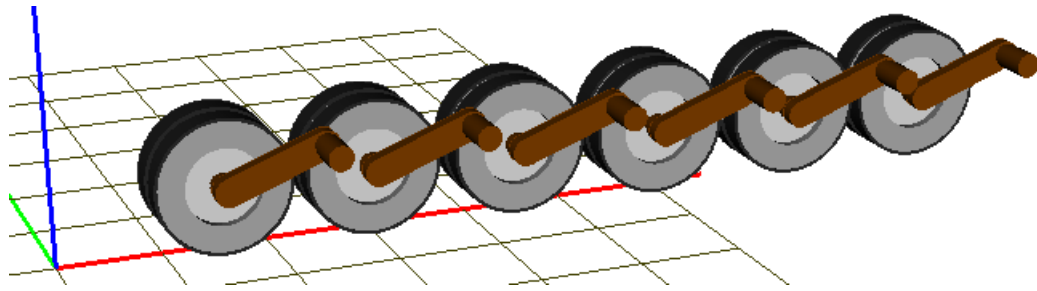

Figure 1.6. First variant of suspension
1. Click the **Generate** button to create the suspension according to the specified parameters; the suspension appears in the animation window, Figure 1.6.